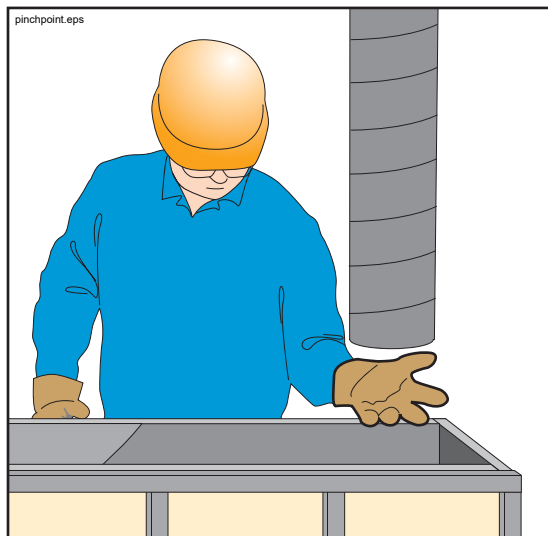

Figure 95
- 17.20 **⚠ WARNING** Crushing hazard! Never position your hands or any body part between the end of the delivery system and a fixed object (e.g., between the tip hose and the concrete form) (Figure 95). Watch for clamps lowering with the line, because they have a larger diameter than the pipes/hoses they connect.